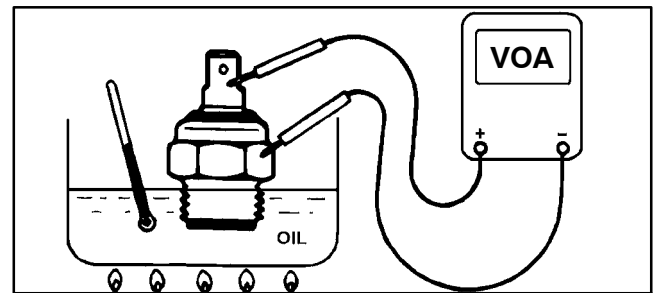

Figure 37
2. Put switch in a container of oil with a thermometer and slowly heat the oil (Fig. 37).